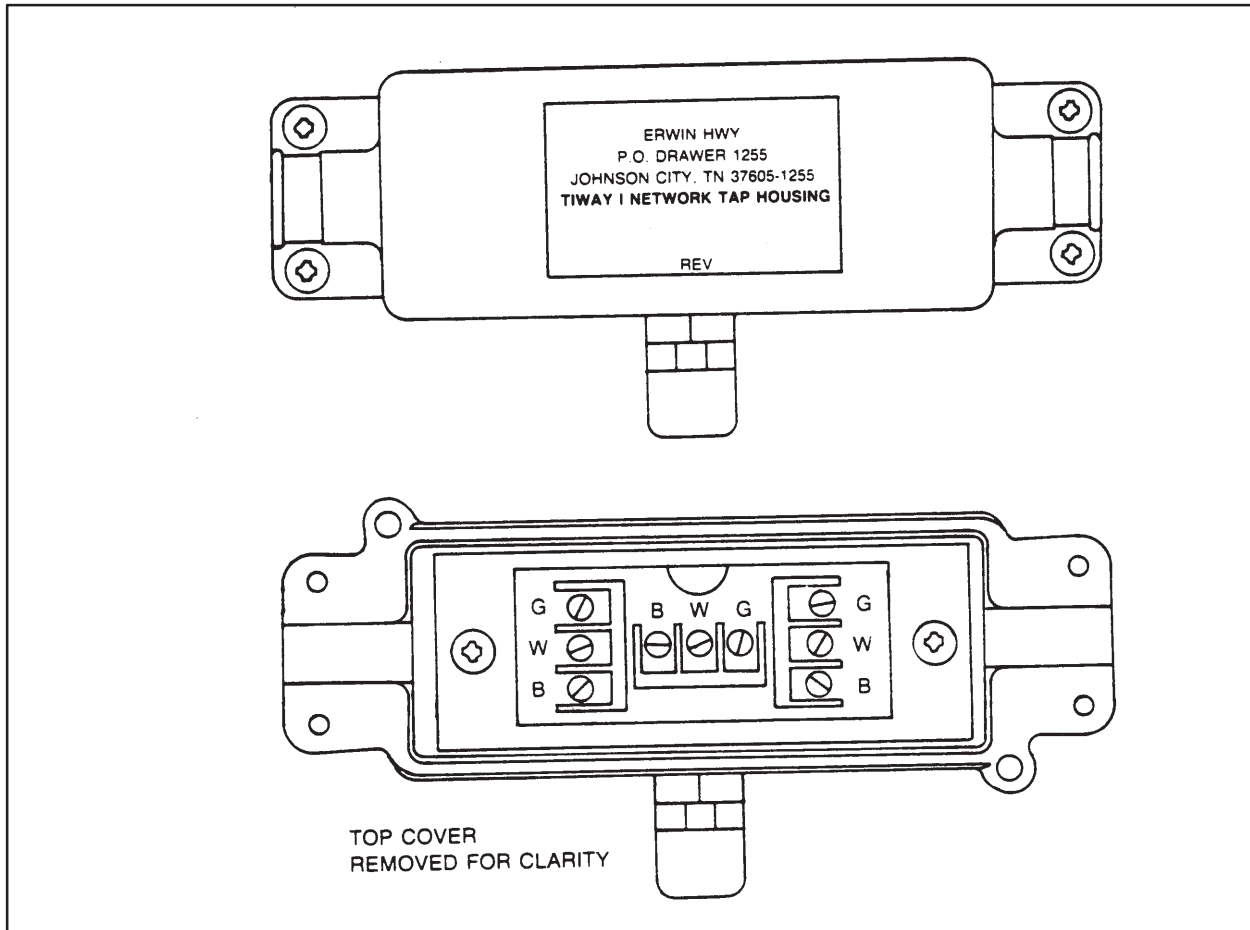

Figure 4-2 Tap Housing
**Tap Housing.** The tap housing, shown in Figure 4-2, is manufactured by Siemens specifically for the Local Line network. The tap housing can be mounted rigidly to a NEMA panel or other enclosure. It could also be used to splice cables in a cable tray without being rigidly mounted. The tap housing not only allows tapping into a twisted pair cable, but also contains termination resistors, resists moisture, relieves strain, and provides noise isolation for attached cabling. One tap housing is provided with Host Adapter Model 7101 or 7103. Additional tap housings may be ordered from your Siemens distributor under part number PPX:500–5606.